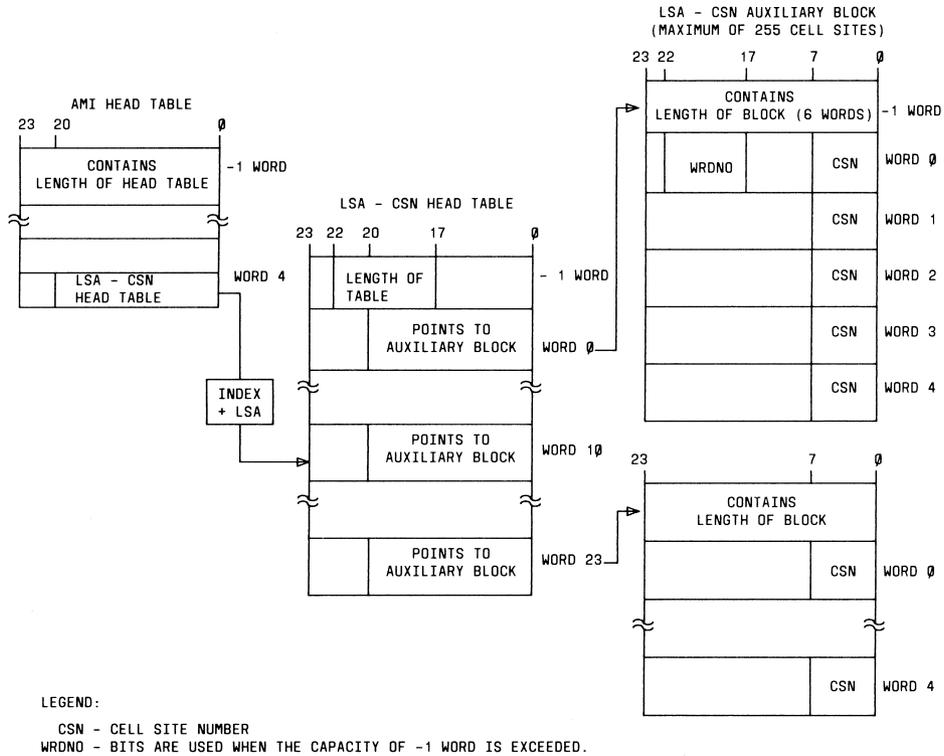

Fig. 1—Limited Service Area to Cell Site Number Translator
3.07 Bits 0 through 20 of the AMI (AMPS miscellaneous information) translator head table contains the address that points to the LSA to CSN head table. This table can contain up to 24 entries. Indexing into this table is performed by LSA (0 through 23), and each entry points to a list of cell sites assigned to each LSA. The LSA to CSN auxiliary block can contain up to 255 cell site numbers. For easy access, the cell site numbers are stored in ascending order. Refer to Fig. 1 for the detailed layout of the LSA to CSN translator.